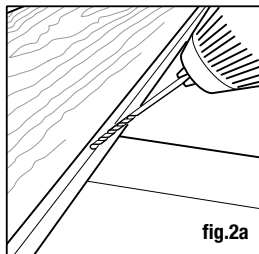

fig.2a
**OR:** Start installing from the center of the board and work out toward the ends of the board. Do not install by fastening each end first and working toward the middle. To keep the interior boards from moving over time, we recommend pinning the boards at the center of their length using a #8, 2" stainless steel screw. This holds the deck board in place at the center of each board and allows the decking to expand/contract at the ends. Pre-drill in the groove of the deck board with an 1/8" drill bit (fig. 2a). Drive screw into the groove so it's flush with the bottom of the groove (fig. 2b). This will allow you to properly fit a Stowaway hidden fastener into the groove.